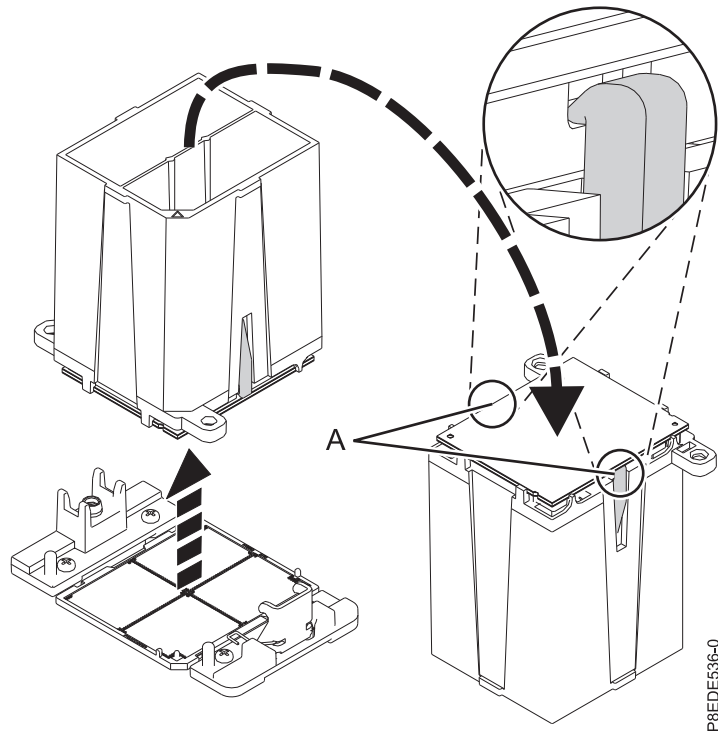

Figure 128. Preparing for system processor module installation
- a. Ensure that both jaws (**A**) are firmly grabbing the system processor module, as shown in Figure 128 on page 130.